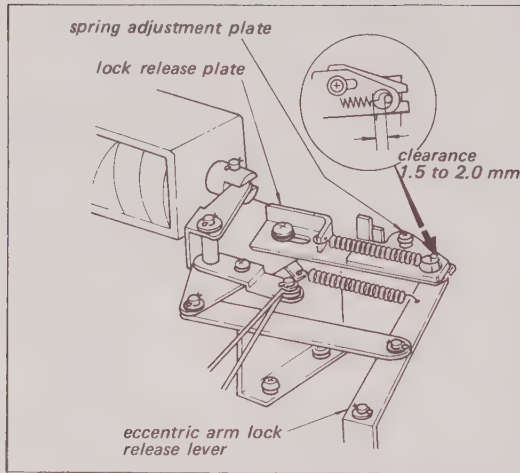
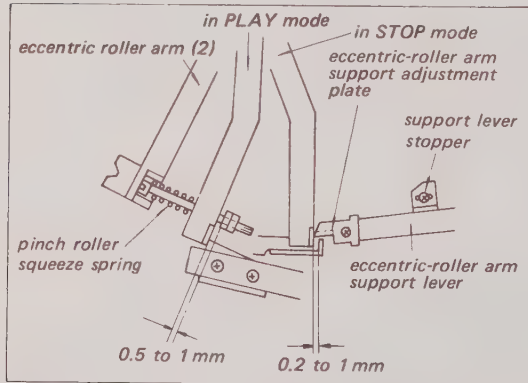

Fig. 5-36. Solenoid linkage adjustment
Fig. 5-37. Solenoid A linkage adjustment continued
9. Refer to Fig. 5-36. Check the clearance between the post on the Eccentric Arm Lock Release lever and the hole in the Spring Adjustment Plate. The clearance should be 1.5 to 2.0 mm. Adjust the clearance by loosening the screw in the Spring Adjustment Plate.
11. Following Step 9, recheck Step 8 and make sure that the Pinch Roller Pressure Spring is operating (Eccentric Roller Arm (2) is clear of the double nuts by 0.5 to 1 mm.
13. Refer to Fig. 5-37. Make sure that Eccentric Roller Arm (2) is stopped against the end of the Eccentric-Roller Arm Support Lever. The clearance between the Support Lever and the Lock Lever should be 0.2 to 1.0 mm. Adjust the position and angle of the Support Lever Stopper for the proper clearance.